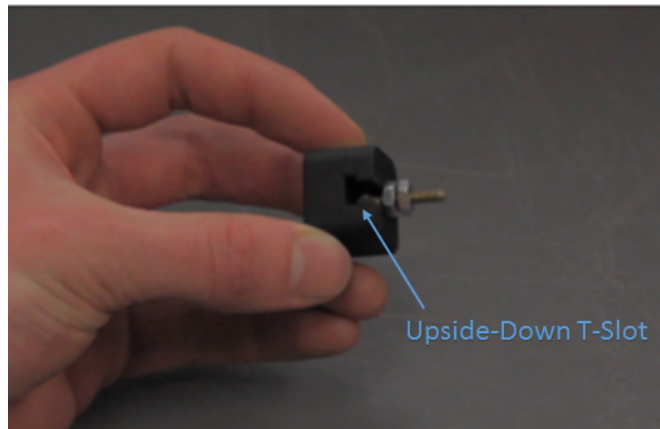

Figure 10. Ankle Holster with Hex Head Screw placed into Upside-Down T-Slot and 2 Hex Nuts threaded onto screw
3. Insert a Hex Head Screw (3q) into the Upside-Down T-slot of the Ankle Holster (3p) so that the head of the screw sits in the center of the Ankle Holster and the threaded part protrudes from the top of the Ankle Holster. This may be a tight fit. It is okay to press hard to get the screw fully into the slot on the Ankle Holster (Figure 10).
4. Thread a Hex Nut (3r) onto the Hex Head Screw and tighten it down onto the Ankle Holster (Figure 10).
5. Thread a second Hex Nut onto the Hex Head Screw and place it close to the other Hex Nut but do not tighten it (Figure 10).